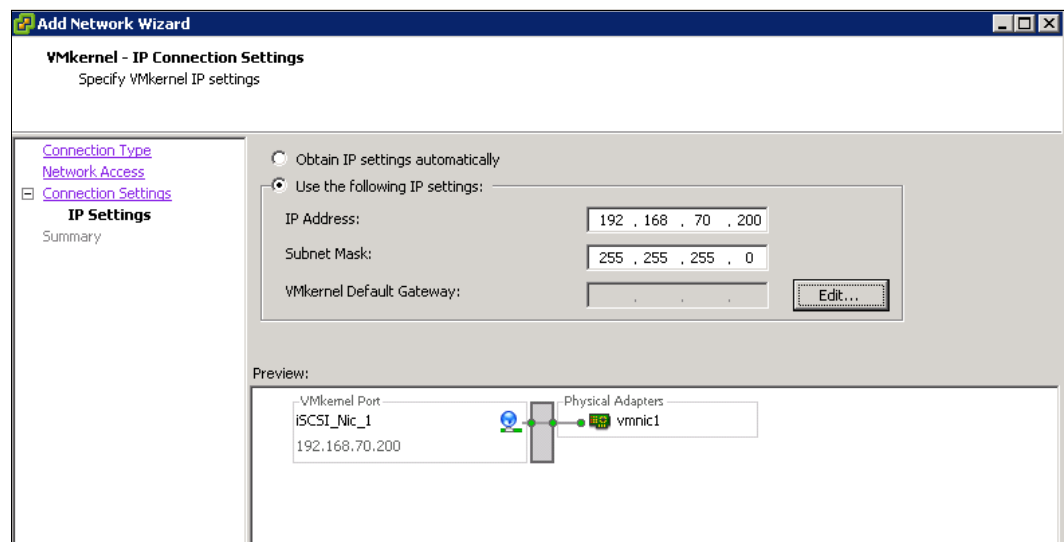

Figure 4-12 VMware: Enter iSCSI Network IP
5. Enter an IP address for your iSCSI network. You should use a dedicated network for iSCSI traffic (Figure 4-12).